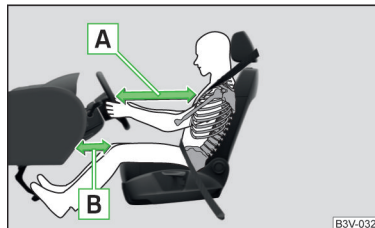

Fig. 9
- For the driver and front passenger it is important to maintain a distance of at least 25 cm to the steering wheel and the dashboard » Fig. 9 - **A**. If you do not keep this distance, the airbag system cannot protect you - risk of death! The front seats and the head restraints must always also be correctly adjusted to match the body size of the occupant.
- Adjust the driver's seat in a forward/back direction so that there is a gap of at least 10 cm between the legs and the dashboard in the vicinity of the knee airbag » Fig. 9 - **B**. If it is not possible to meet this requirement due to your body size, visit a specialist garage.